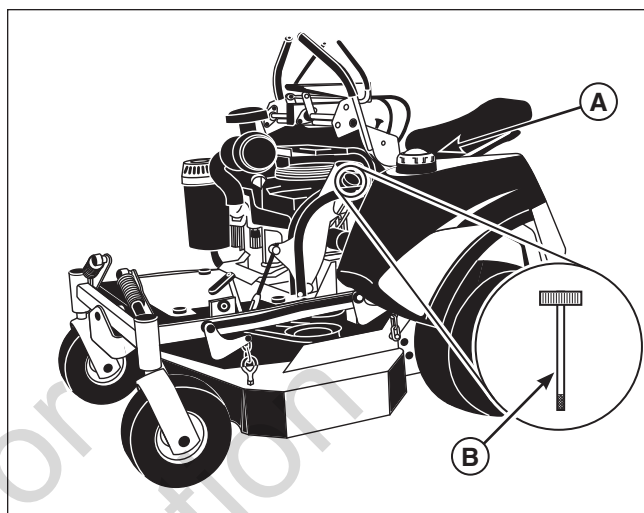

Figure 1. Pre-start Checks
- Check that crankcase is filled to full mark on dipstick (**B, Figure 1**). See the engine Operator's Manual for instructions and oil recommendations.